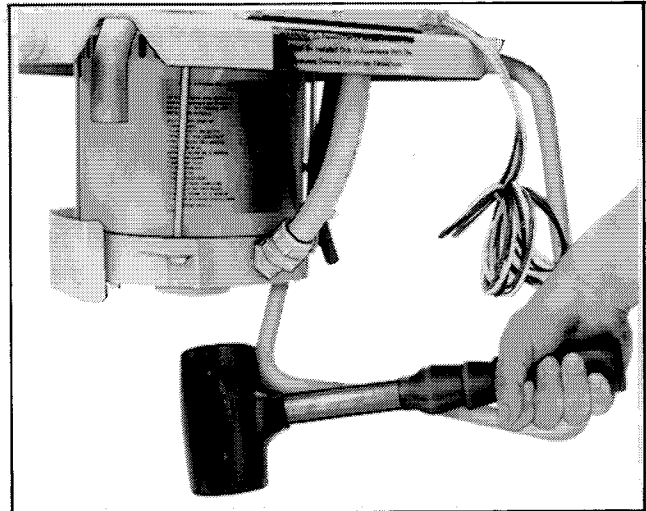

Figure 5-14. Tapping End Bracket
- b. Lightly strike the end bracket with a rubber mallet, see Figure 5-14. Recheck drag using torque wrench. If reading is 40 in. lbs. (4.5 Nm) or less, crankshaft end play is correct — go to Step 10.